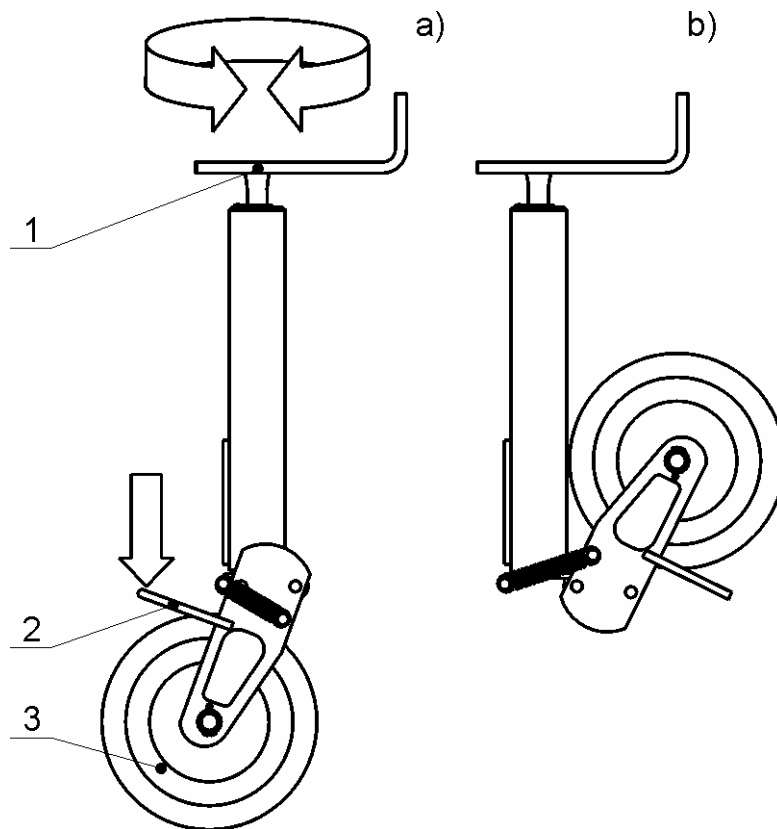

Fig. 8 Trailer support
- Position the hitch rod eye on suitable level. Precise adjustment of the rod can be achieved with use of the support wheel screw (fig. 8).